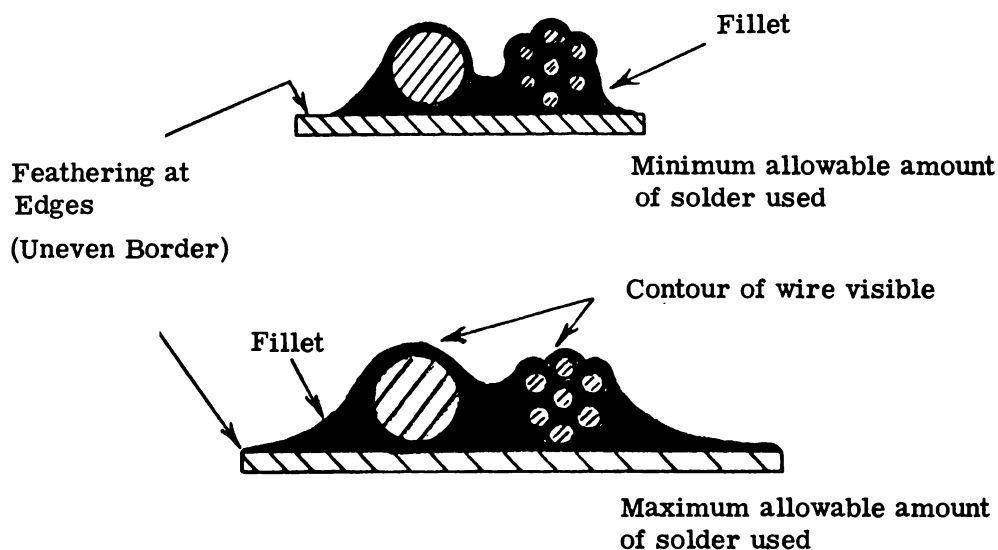

Figure 3-21
- (1) All wraps shall be fully loosed and have mechanical security.
- (2) Good filleting, Figure 3-21.